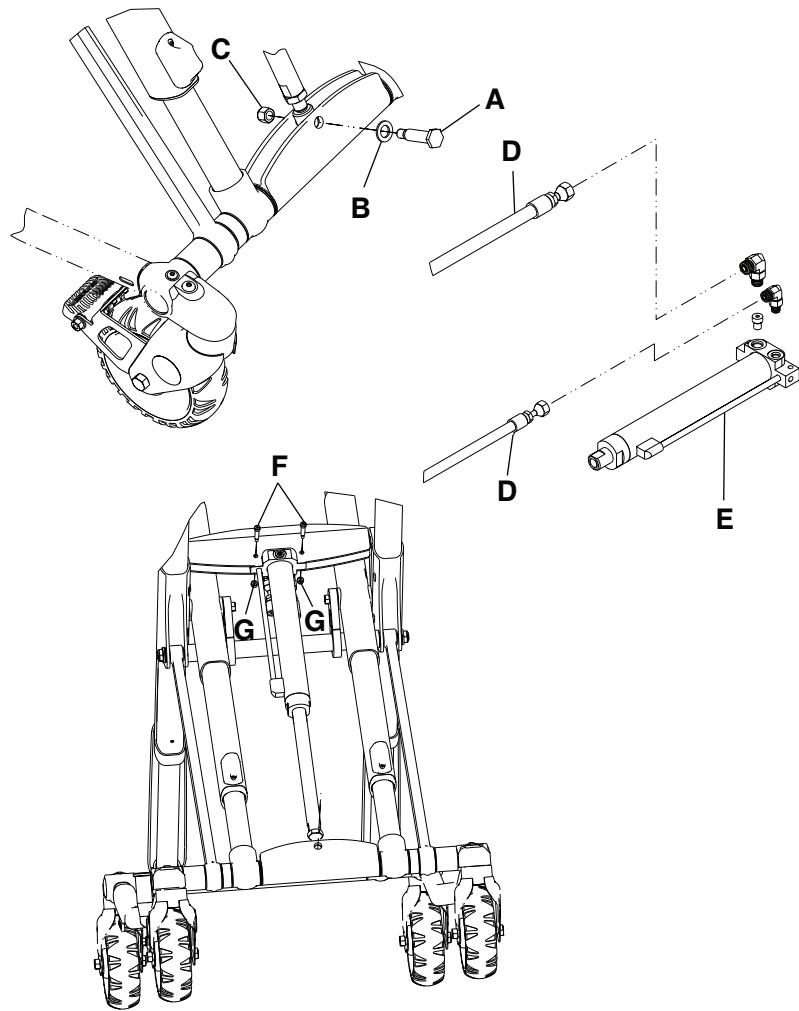

Figure 17 – Hydraulic cylinder replacement
3. Using a 3/4" and 9/16" combination wrench, remove the rod attachment pin (A), washer (B), and Nylock hex nut (C) that secure the hydraulic cylinder to the base (Figure 17). Save all parts.
5. Using an 11/16" combination wrench and a 13/16" combination wrench, remove both hoses (D) from the hydraulic cylinder (E) (Figure 17).
- Using a 1/8" hex wrench and 3/8" combination wrench, remove the two socket head set screws (F) and Fiberlock hex nuts (G) that secure the hydraulic cylinder to the base (Figure 17). Save the nuts and screws.